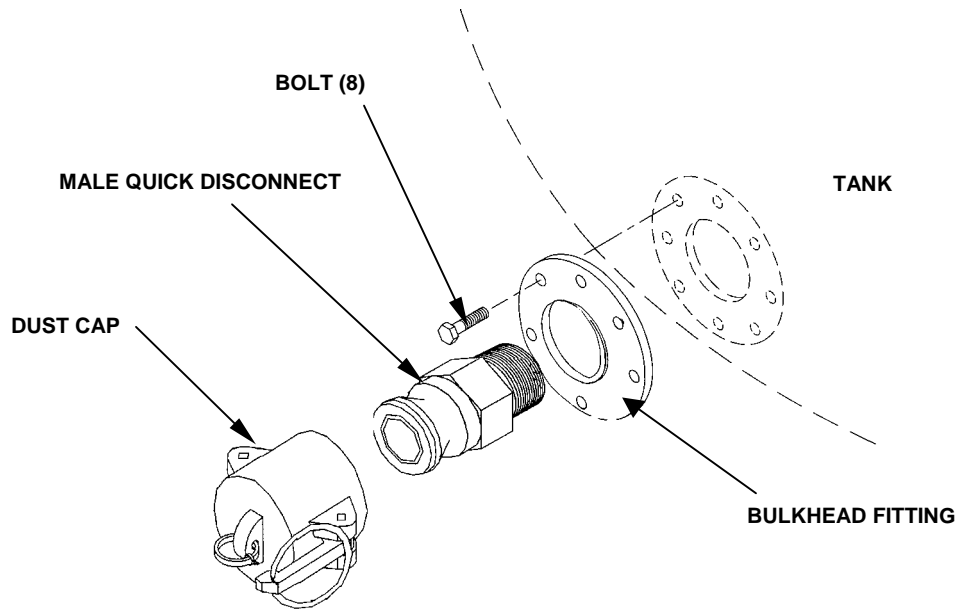

Figure 2. Settling and Product Tank Discharge Fitting.
3. Remove eight bolts and remove the bulkhead fitting from the tank if necessary. See Figure 2.
1. Install the bulkhead fitting and secure with bolts. See Figure 2.